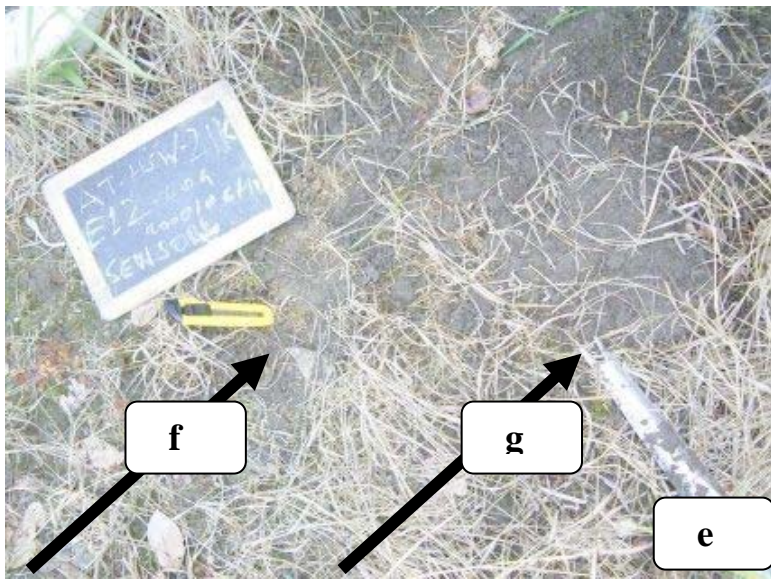

Fig. 4
Installation in the field (see Fig. 4 above)
9) Put the metal tip of the cable (this is the sensor; see Fig. 4) of the M-Log5 into the borehole, exactly at the old Tidbit's position, with the sensor parallel to the soil surface, at 10cm depth, as exactly as possible. Then put the cable and the logger housing into the slot.
12) Make a photo of the new soil surface situation (sensor, cable and logger covered). **VERY IMPORTANT** (Fig. 4, e): Put the tip of a pencil or knife to the sensor's position (Fig. 4, f). Write "Sensor" together with an arrow onto the blackboard and position it close to the sensors position (e, and zoom in Fig. 4, h). Put an other pencil's tip etc. to the position where the string (mounted on the ring on the end of the logger housing) is below the surface (Fig. 4, g). Then make the photo.